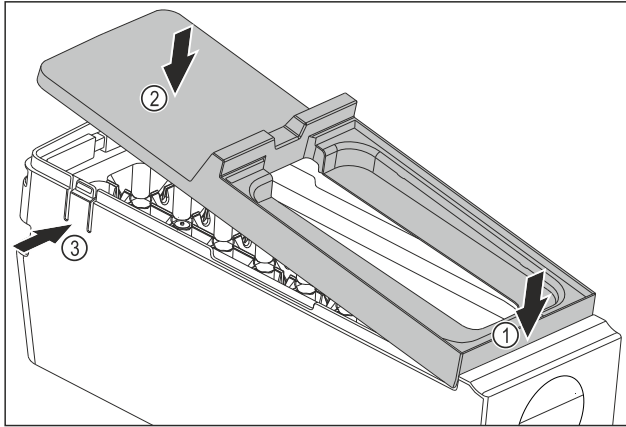

Fig. 127
- Installing the cover of the EasyTwist-Ice body: Fit the cover at the front. Fig. 127 (1)
- Lower the cover at the rear. Fig. 127 (2)
- ▷ The cover snaps audibly into place in both tabs Fig. 127 (3).